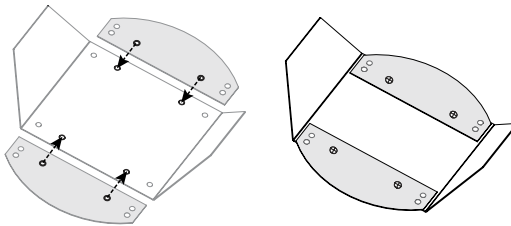

Figure 16-2
Installation of the provided vent restrictor assembly is required only for the venting configurations listed in *Figure 16-2*.
1. Refer to *Figure 16-2*.